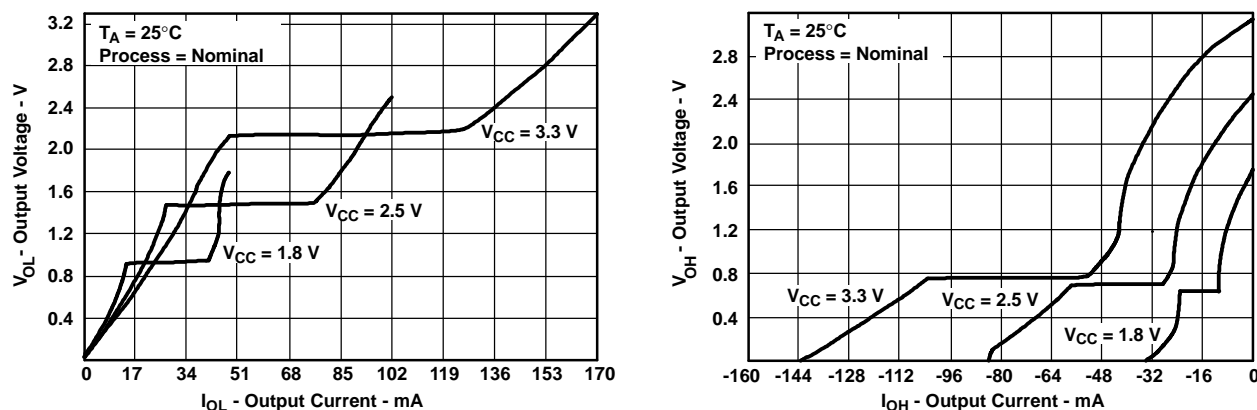

Figure 1. Output Voltage vs Output Current
A Dynamic Output Control (DOC™) circuit is implemented, which, during the transition, initially lowers the output impedance to effectively drive the load and, subsequently, raises the impedance to reduce noise. Figure 1 shows typical V_{OL} vs I_{OL} and V_{OH} vs I_{OH} curves to illustrate the output impedance and drive capability of the circuit. At the beginning of the signal transition, the DOC circuit provides a maximum dynamic drive that is equivalent to a high-drive standard-output device. For more information, refer to the TI application reports, *AVC Logic Family Technology and Applications*, literature number SCEA006, and *Dynamic Output Control (DOC™) Circuitry Technology and Applications*, literature number SCEA009.
(1) All unused inputs of the device must be held at V_{CC} or GND to ensure proper device operation. Refer to the TI application report, *Implications of Slow or Floating CMOS Inputs*, literature number SCBA004.
(2) Dynamic drive capability is equivalent to standard outputs with I_{OH} and I_{OL} of $\pm 24\text{ mA}$ at 3.3-V V_{CC} . See Figure 1 for V_{OL} vs I_{OL} and V_{OH} vs I_{OH} characteristics. Refer to the TI application reports, *AVC Logic Family Technology and Applications*, literature number SCEA006, and *Dynamic Output Control (DOC™) Circuitry Technology and Applications*, literature number SCEA009.